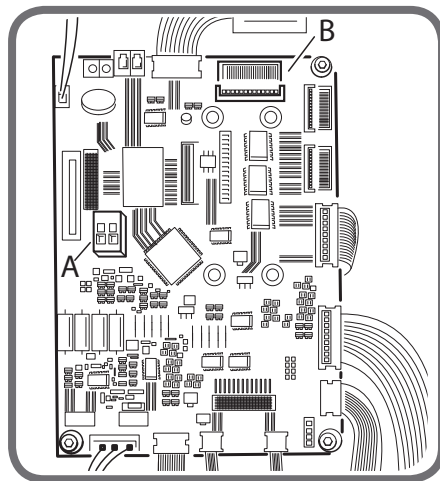

Fig.5A
- With the machine turned off, set the deep-switch (A, figure 5A) which is necessary for accessing the diagnostics mode, i.e:
- With the machine switched off set the relative deep switch (A, figure 5A) which is necessary for the programming based on the card to be updated, i.e.:
- Connect the serial cable code 8-21100224 to the “JPS1A” connector of the card itself (see part B figure 5A). The other end of the cable is connected to the RS232 serial port on the PC. If the PC does not have a RS232 port use the RS232/USB adapter code 8-21100226.